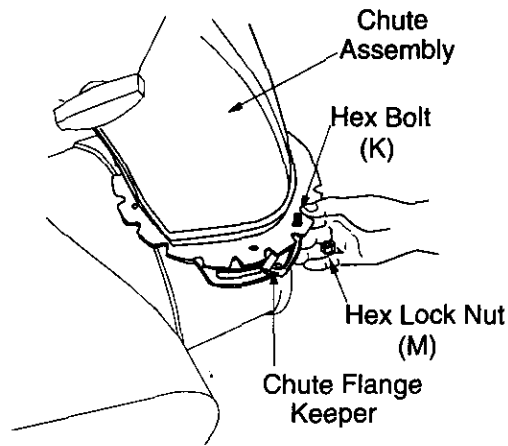

Figure 11
2. Insert hex bolt (K) up through chute flange keeper and chute assembly as shown in Figure 11. Secure with hex lock nut (M). After assembling all three chute flange keepers, tighten all nuts and bolts securely. Do not **overtighten**.